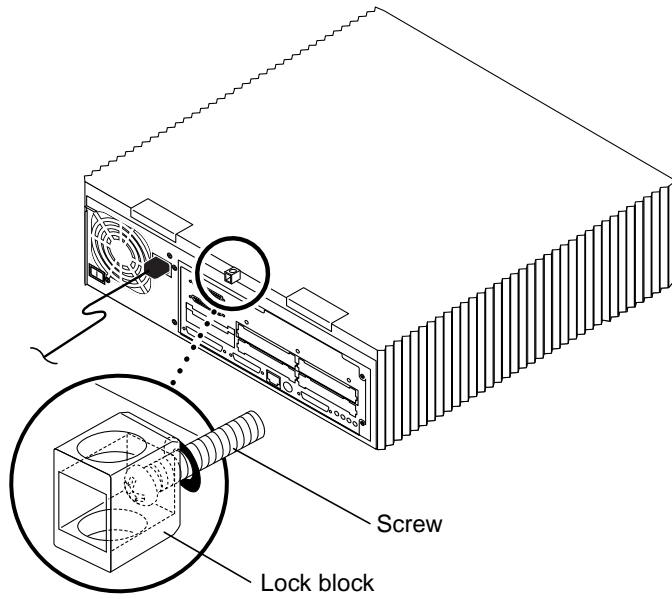

FIGURE 2-3 Location of Ultra 2 Lock Block
1. Using a number 2 Phillips screwdriver, loosen the screw securing the lock block (if installed) to the cover and back panel. Remove the lock block (FIGURE 2-3).